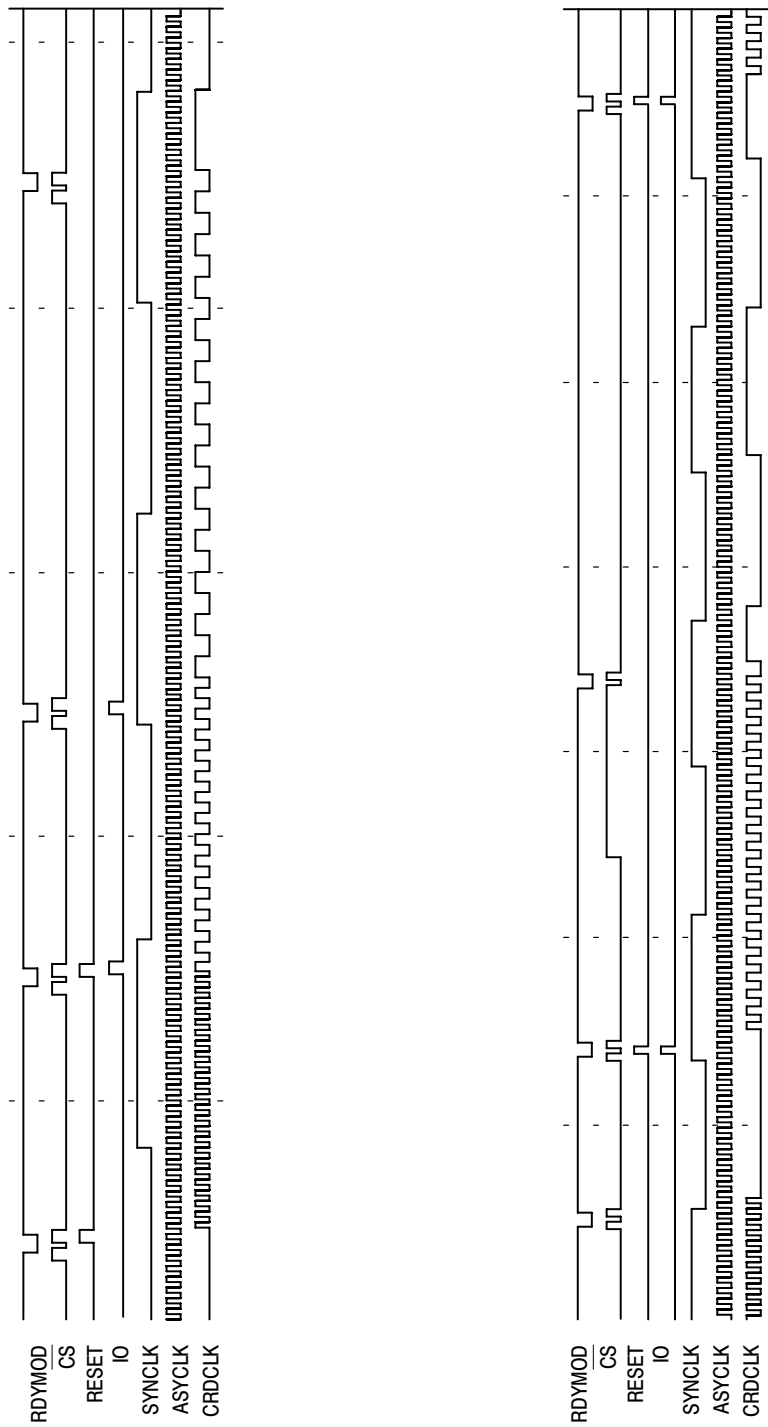

Figure 29. "On-the-Fly" Card Clock Selection Examples
Clock Signal Synchronization and Consistency (Figure 29). The clock divider includes synchronization logic that controls the switch from synchronous clock to asynchronous (and vice-versa), from any division ratio to any other ratio, during \overline{CS} changes and at powerup. The synchronization logic guarantees that each clock cycle on the **CRDCLK** pin is finished before changing clock selection (and has always the adequate duration), regardless of the moment the programming is changed.
- Consistent clock signal, even when division ratio or synchronization clock signal are changed “on the fly” during a card session (Figure 29)